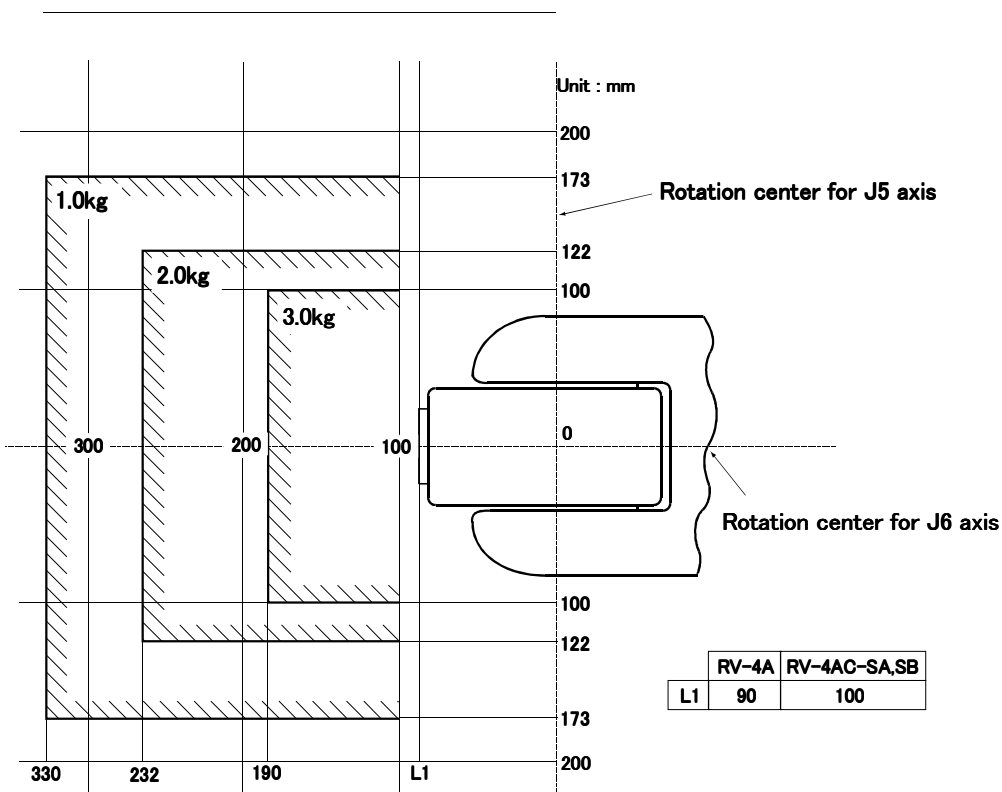
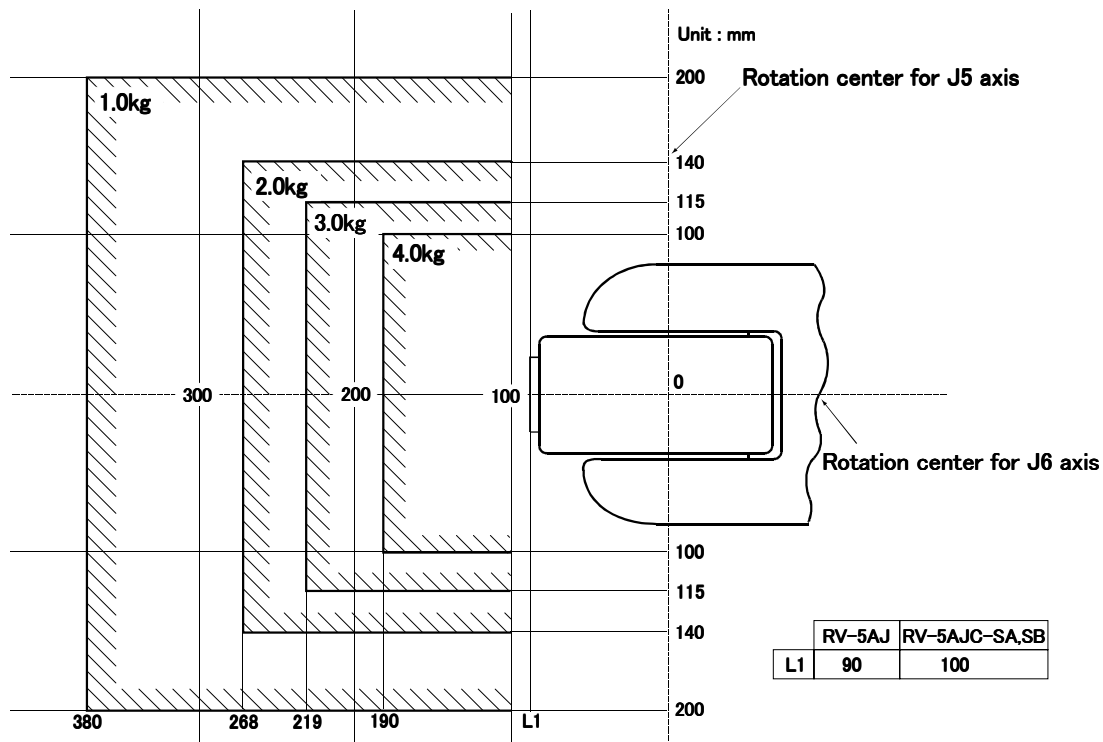
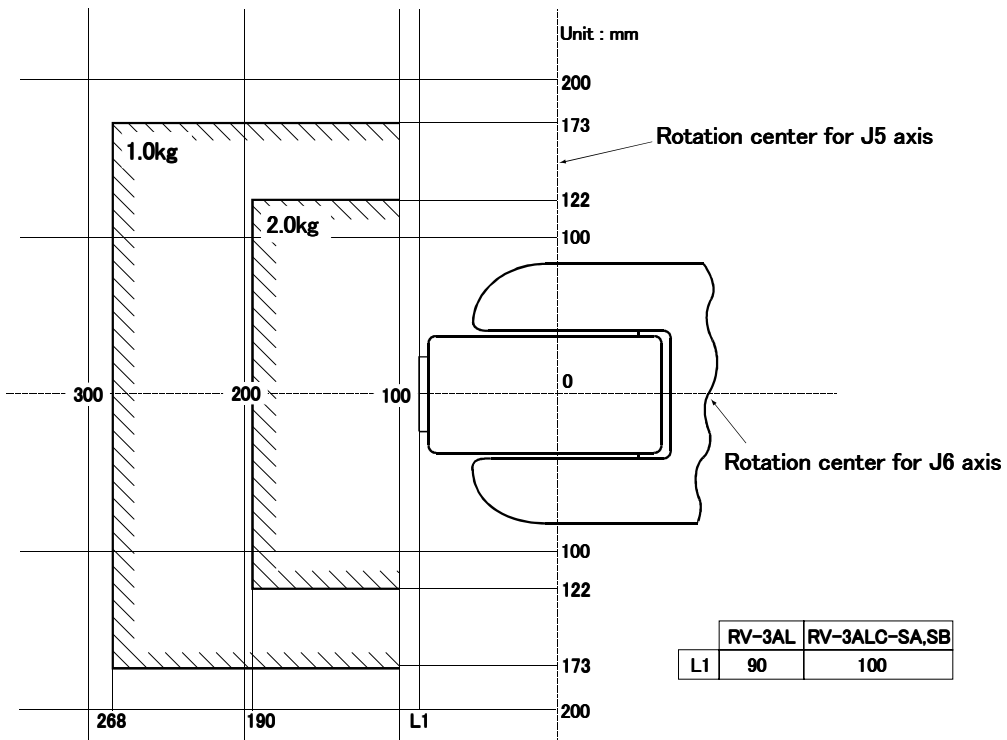
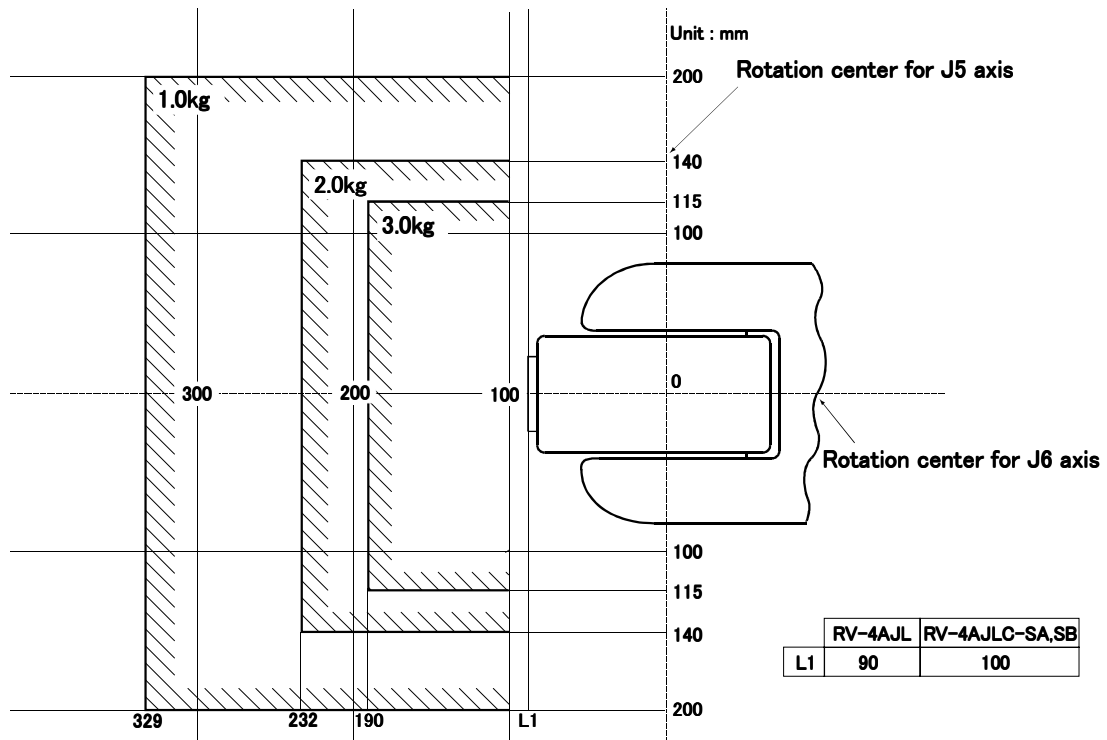

Fig.2-19 : Position of center of gravity for loads (for loads with comparatively small volume):RV-4A/4AC-SA,SB
Fig.2-20 : Position of center of gravity for loads (for loads with comparatively small volume):RV-5AJ/5AJC-SA,SB
Fig.2-21 : Position of center of gravity for loads (for loads with comparatively small volume):RV-3AL/3ALC-SA,SB
Fig.2-22 : Position of center of gravity for loads (for loads with comparatively small volume):RV-4AJL/4AJLC-SA,SB
- (1) The tooling should have the value less or equal than the smaller of the tolerable inertia and the tolerable moment found in Page 5, "Table 2-1 : Tab Standard specifications of robot".
- (2) Fig. 2-19, Fig. 2-20, Fig. 2-21, and Fig. 2-22 shows the distribution dimensions for the center of gravity in the case where the volume of the load is relatively small. Use this figure as a reference when designing the tooling.
- (3) When the load is not mass, but force, you should design the tooling so that it does not exceed the value for allowable moment described in Page 5, "Table 2-1 : Tab Standard specifications of robot".